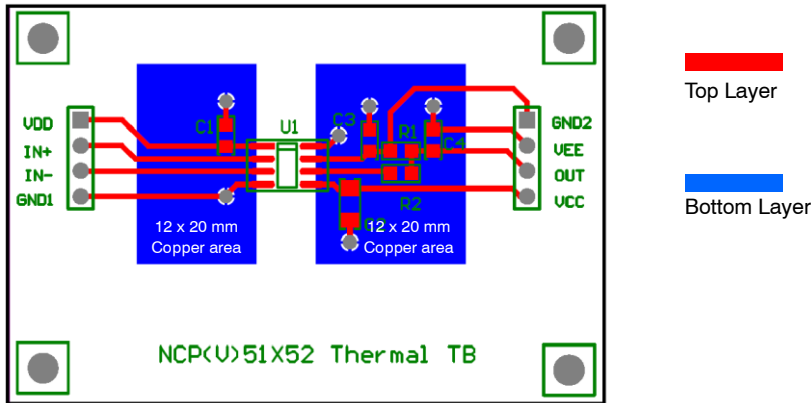

Figure 5. Reference Layout for the Type–A
8. As specified for a reference layout shown in Figure 5. The DUT is mounted on a 60 x 40 x 1.6mm FR4 substrate with an additional heat spreading copper of 240 mm²/300 mm² (Primary/Secondary). The copper thickness is 1oz and test conditions is under natural convection or zero air flow.